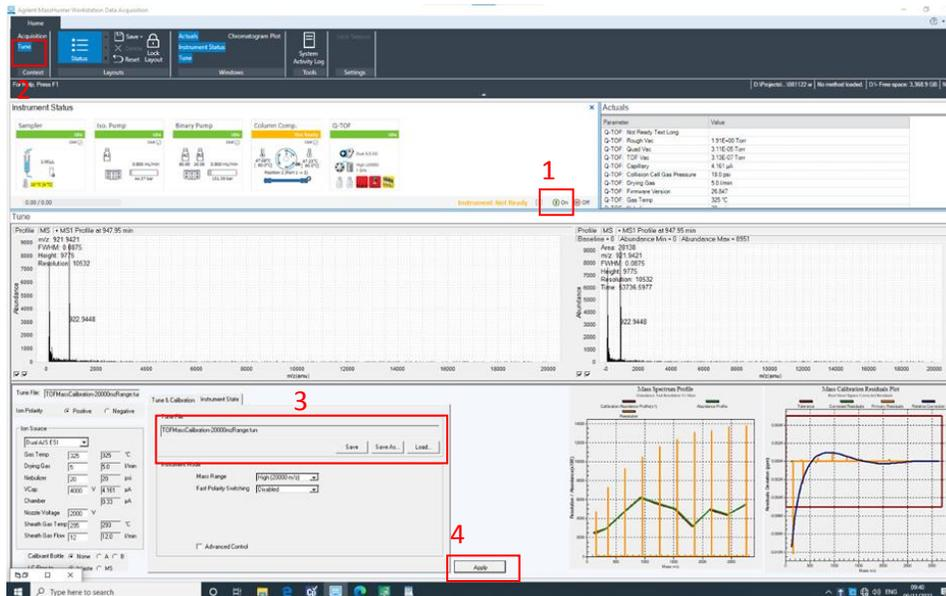
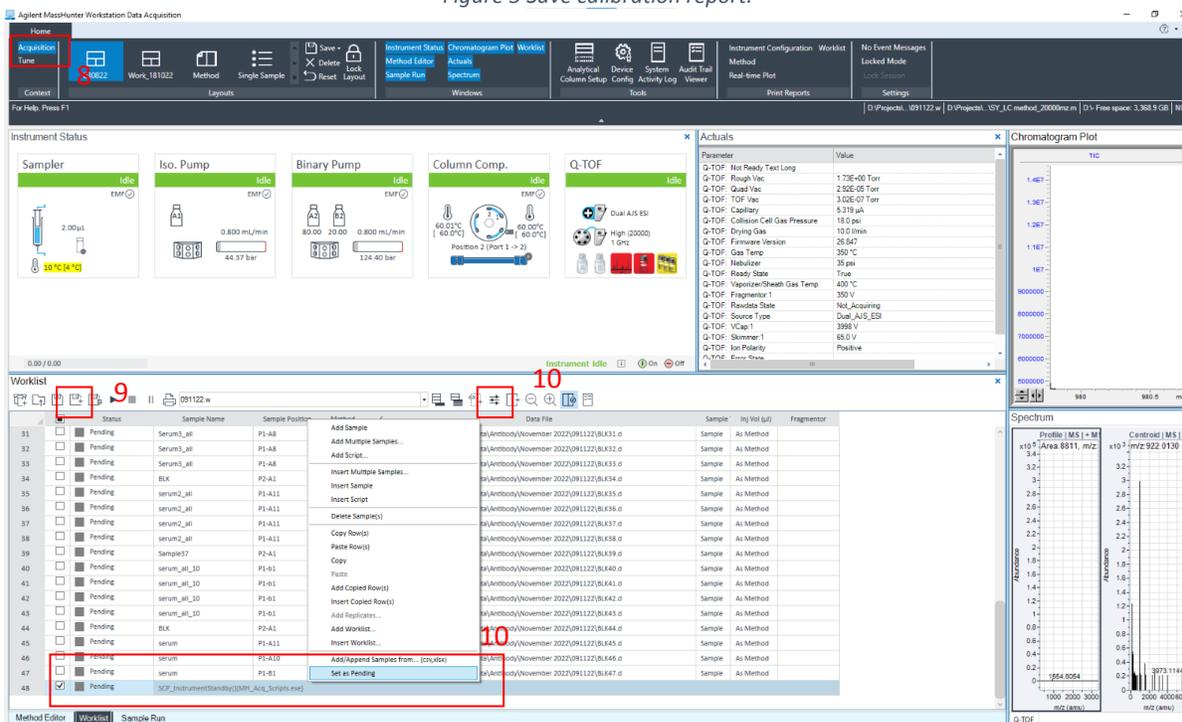

Figure 1
Figure 6 Make sure script at end of worklist is ticked.
Calibrating and setting up instrument (Figure 1-Figure 6)
11. **Right click the script at the end of worklist – set as pending (Figure 6).** **This script will put the instrument on standby at the end
1. Scroll to end of worklist, **right click the script at the end of worklist – set as pending (Figure 6).**